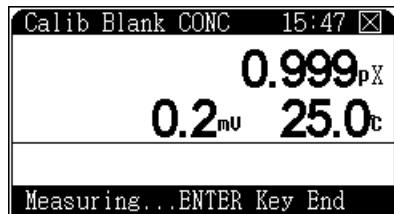

Figure 25 Blank Concentration Calibration in Direct Reading mode
- 5 Put the ISE and the ATC probe in the blank solution. See Figure 25.